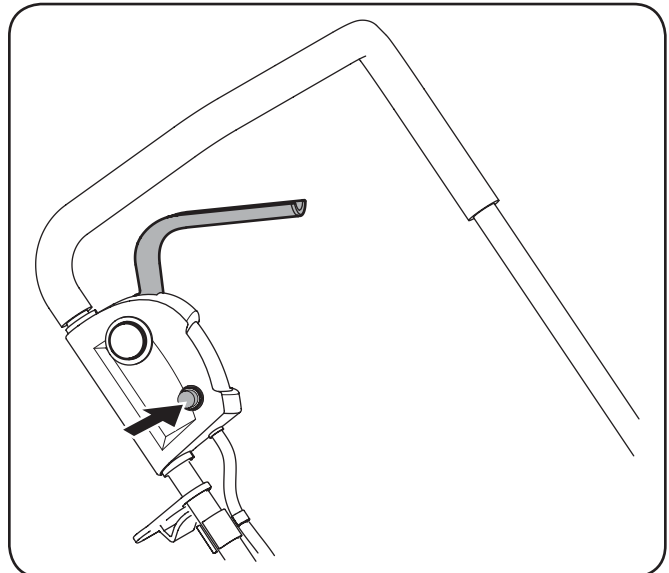

Figure 6-2
2. Press the overload protection switch inward to reset. See Fig. 6-2.